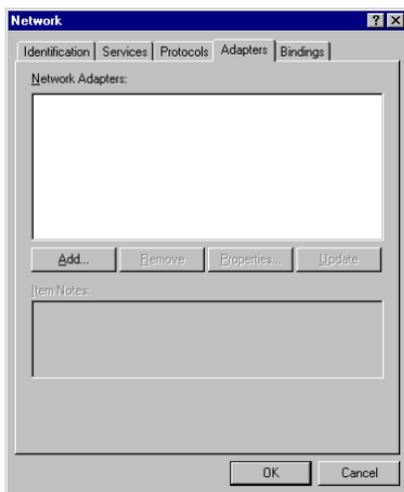

Figure 5.2 Network Window
3. Double click **Network** icon in **Control Panel**, and select **Adapters** tab, the Figure 5.2 displayed.